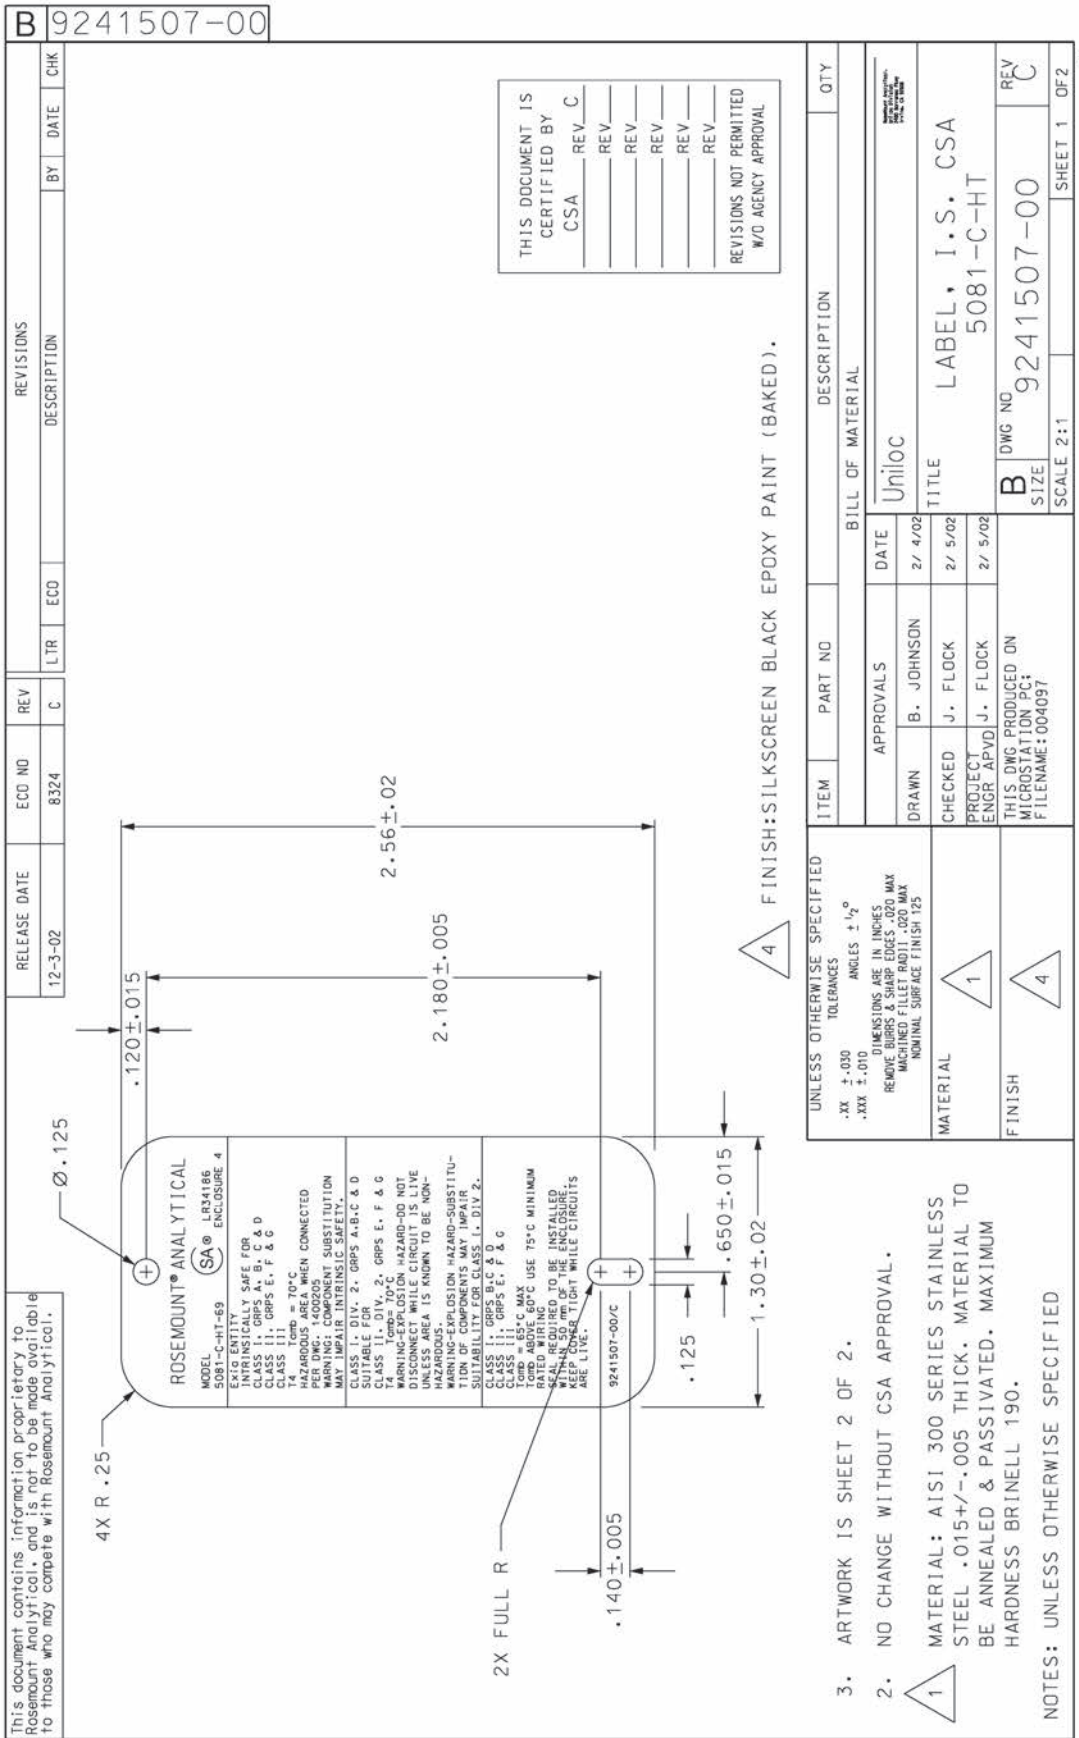

FIGURE 4-6. CSA Intrinsically Safe Label for Model 5081-C-HT
- For CSA intrinsically Safe Label, see Figure 4-6.